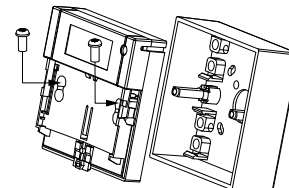

Fig. 5: Body and back-box fixing screws
3. Screw the body to the back-box with the CS3 x 30 screws supplied (see Fig. 5).